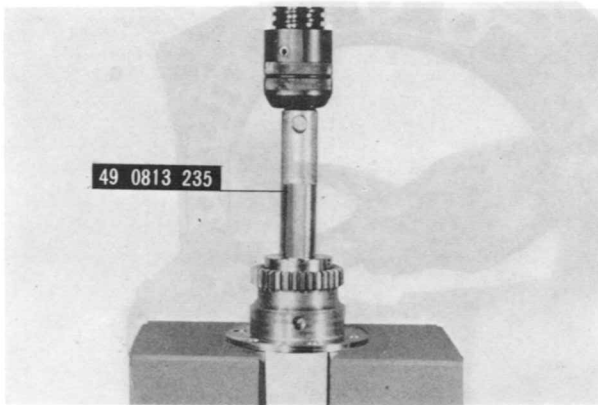

Fig. 1-32 Removing main bearing
- 2) Remove the adaptor on the main bearing replacer and press the main bearing out of the stationary gear by using the **main bearing replacer** (49 0813 235), as shown in Fig. 1-32.